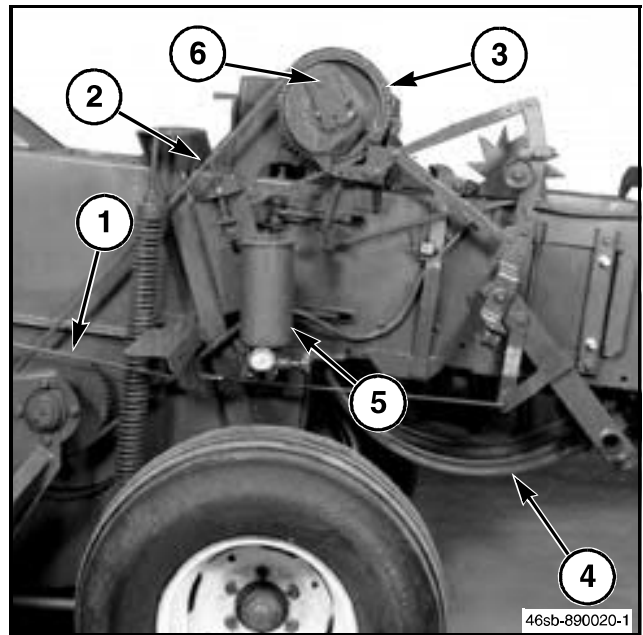

FIG. 6
FIG. 6: A sprocket (1) on the left-hand end of the stuffer shaft drives a No. 50 chain (2). The No. 50 chain drives the knotters (3), the needles (4), and the density control hydraulic pump (5). These components are protected by a shearbolt (6).